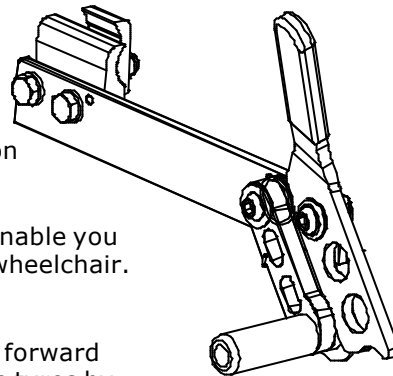

Figure 1.
1. When the brakes are delivered to you they are assembled as shown in figure 1. Before you start to assemble the brakes you should check that the spring (3) is not trapped between the clamp (4) and the spacer (7). If it is trapped, you should reposition the spring round the spacer.